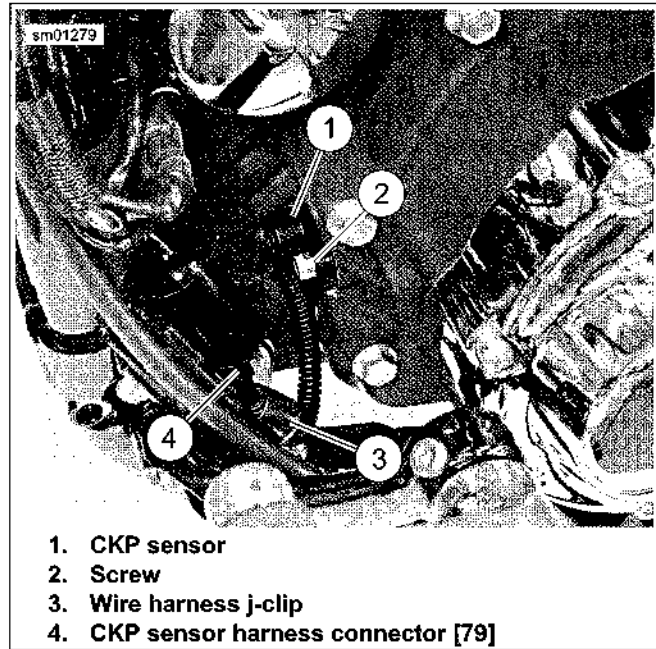

Figure 6-83. CKP Sensor
2. See Figure 6-83. Disconnect CKP sensor harness connector [79A] from wiring harness connector [79B] (4), located along left frame downtube.
3. Remove CKP wire harness from j-clip (3).
4. Remove screw (2). Carefully remove CKP sensor (1) and O-ring from engine crankcase.
1. See Figure 6-83. Carefully install CKP sensor (1) and O-ring into engine crankcase with screw (2). Tighten to 90-120 in-lbs (10.3-13.6 Nm).
2. Route CKP sensor wiring harness through J-clip (3).
3. Attach CKP sensor harness connector [79A] to wiring harness connector [79B] (4).